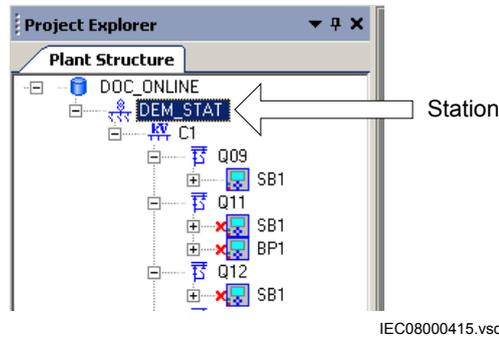

Figure 55: IEC 61850: Export SCD step 1
1. Select the station in the plant structure, see Figure 55.